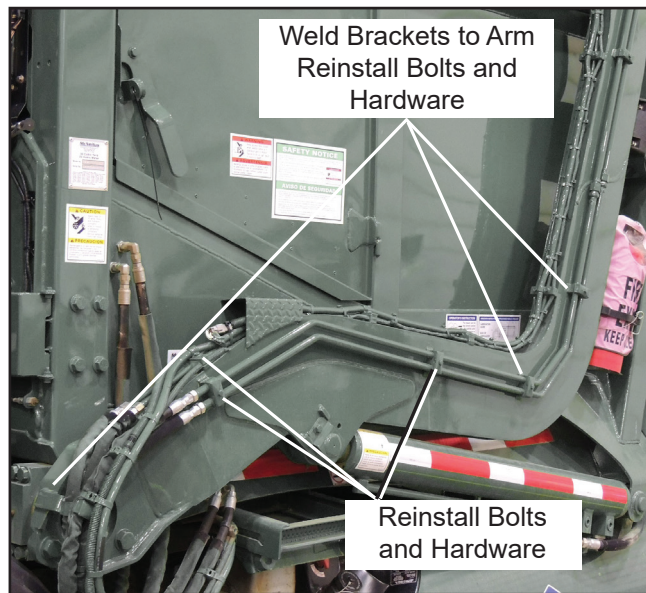

Figure 8
15. Reinstall cable bracket hardware and bolts and using a 1/4" wide weld, weld hydraulic line brackets back into position on both arms. (Figure 8) Be careful to not nick, burn, or cut cables and lines.